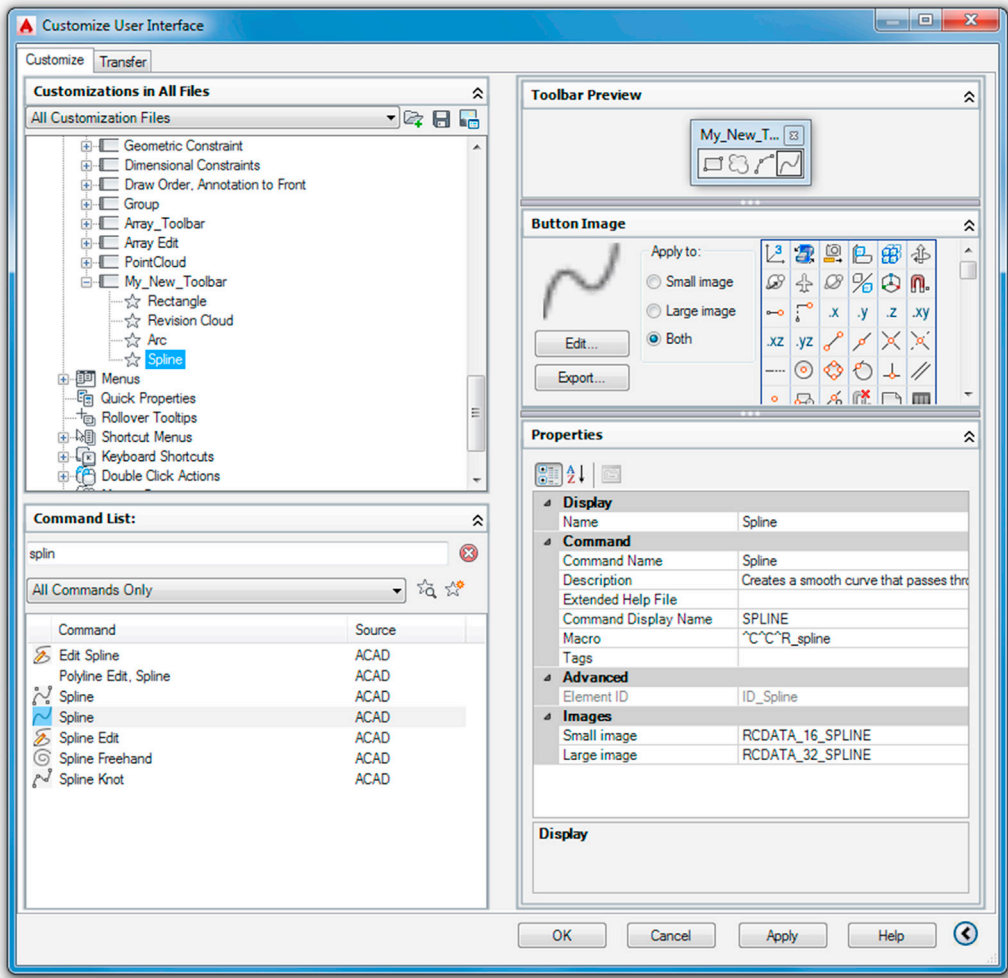

FIGURE 14.20 My_Toolbar—Add Rectangle, Revcloud, Arc, and Spline.
Step 2. On the bottom left begin selecting the commands you want your new toolbar to have (you can filter the commands to find them more easily), and drag them into the new toolbar name on the upper left. As soon as you begin doing this, a toolbar preview and Button Image category appear on the right-hand side, as seen in Fig. 14.20, when Rectangle, Revcloud, Arc, and Spline were added in.